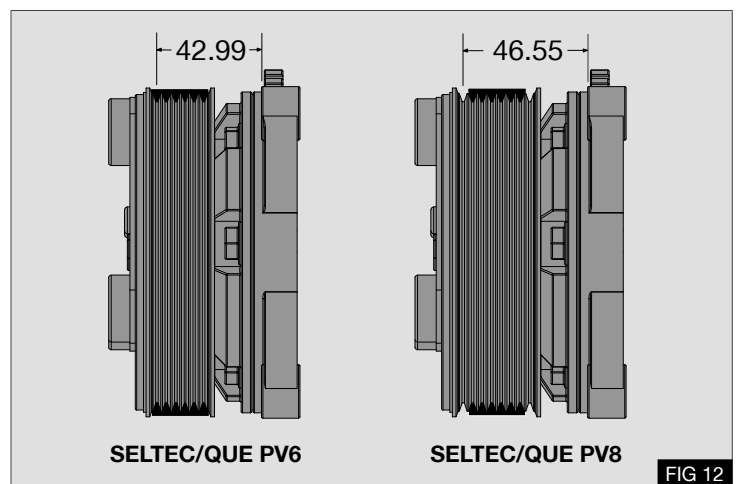

FIG 12
**WARNING:** The compressor drive belt (18) must be fitted one groove back as shown in Fig 12 if using an PV8 Compressor